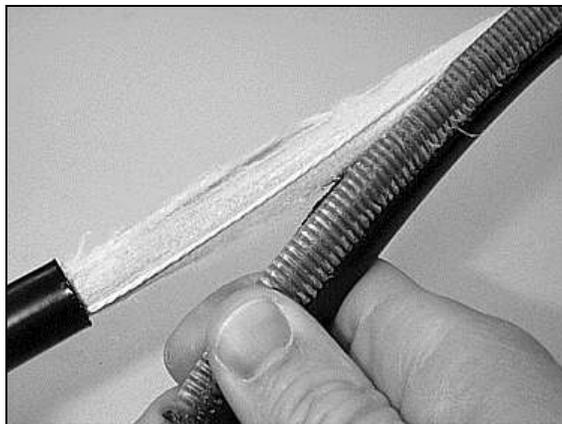

Figure 29 – Carefully remove the outer sheath and armor.
6.10 Carefully remove the 10-inch section of outer sheath and armor from the cable core (Figure 29). Be careful not to scratch or nick the buffer tubes on the edge of the armor. Cut the ripcords at the mid-point. (Note: An inner polyethylene jacket will be exposed on armored cables.)